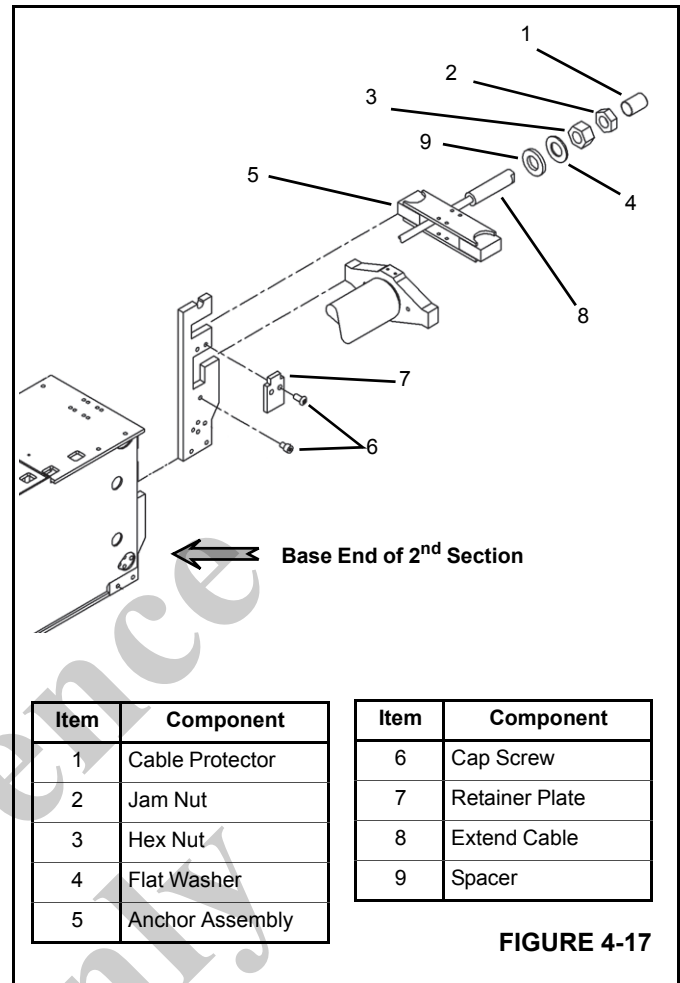

FIGURE 4-17
7. Insert the extend cable anchor assembly into the base end of the 2nd section (Figure 4-17).